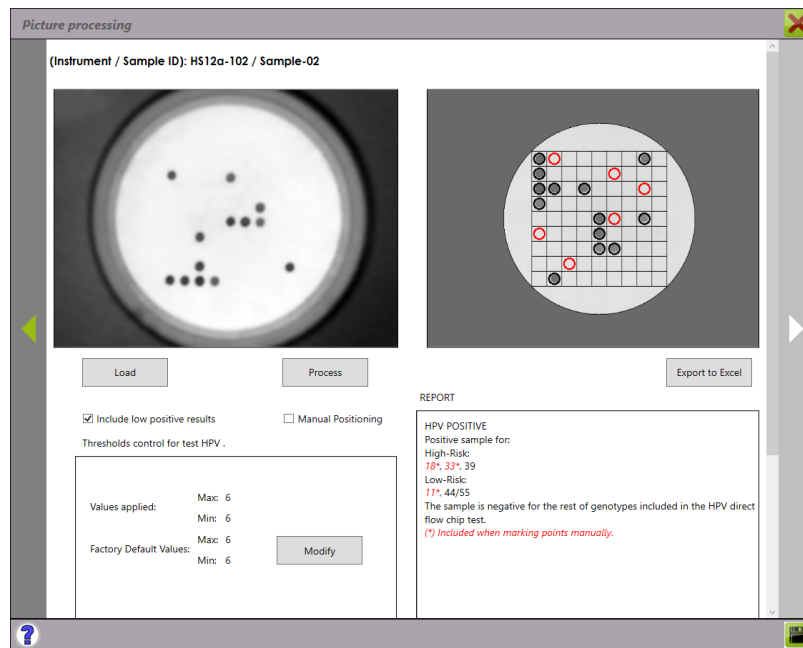

Figure 150. Points selection in the manual array.
- **Save button:** This button keeps the modifications saved in the image results, i.e., the markers manually selected by the user (Figure 150). Or the changes made in that sample's thresholds (Figure 145).